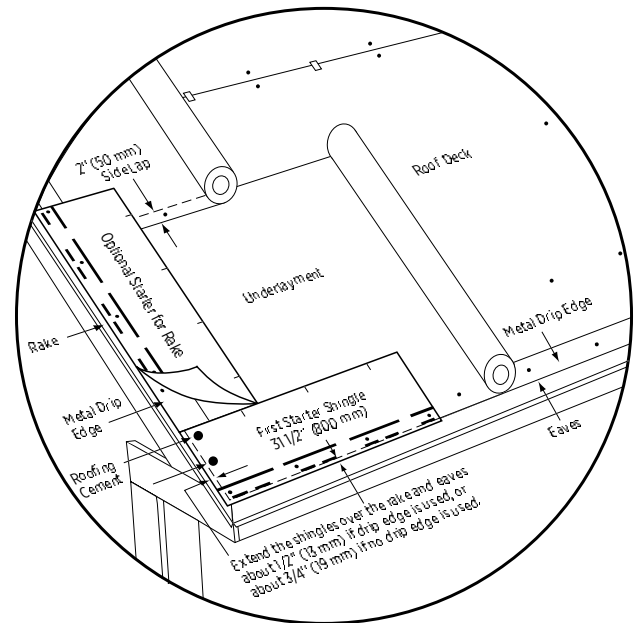

Figure 18-5: Standard slope underlayment and starter drip edge details.
**Underlayment:** Apply as required, following manufacturer's instructions. Figure 18-5 illustrates application of standard felt underlayment, for standard or steep-slopes only. Always ensure sufficient deck ventilation, and take particular care when DiamondDeck®, RoofRunner™ or other synthetic underlayment is installed. Follow manufacturer's application instructions.